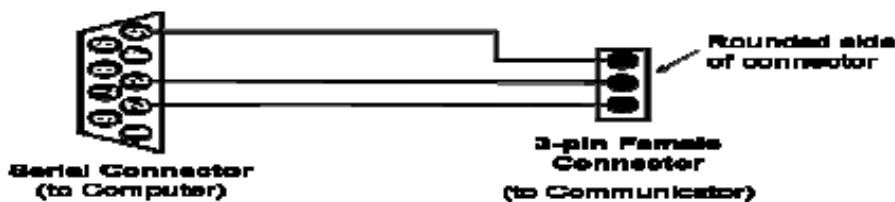

Figure 9: Schematic of Serial to 3-pin Connector Cable for Software Download
3. Connect the #2, #3, and #5 wires to a 3-pin female connector as show in Figure 9.